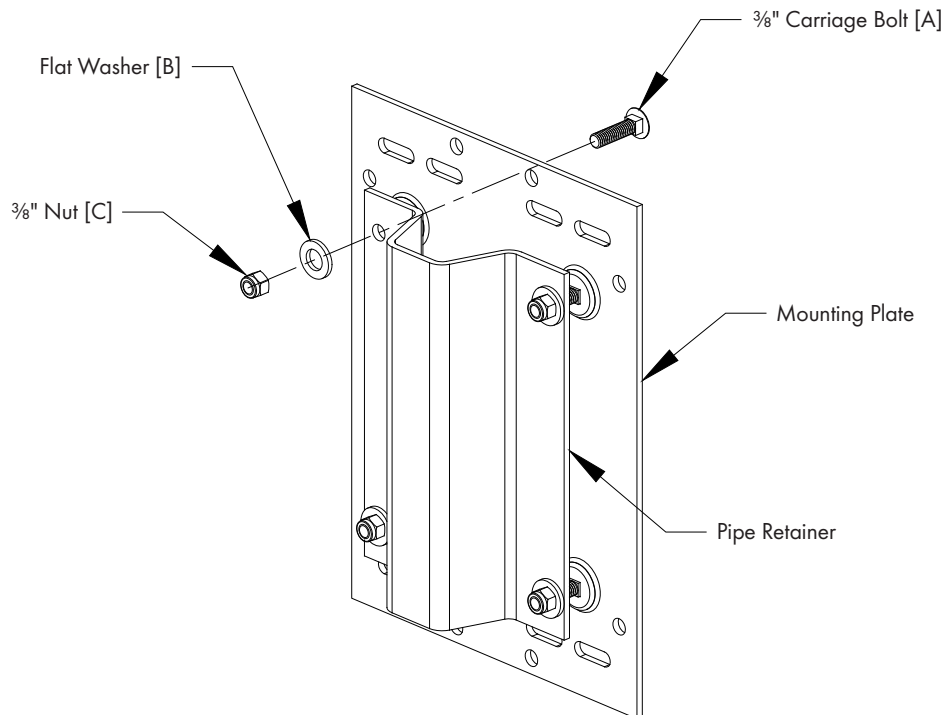

**Figure 3**
Secure fan to Fan Pipe Hanger using (2) Pipe Clamps, (4) 3"L. Hex Bolts [E], (8) Flat Washers [B] and (4) Nylock Nuts [C]. See Figure 3.